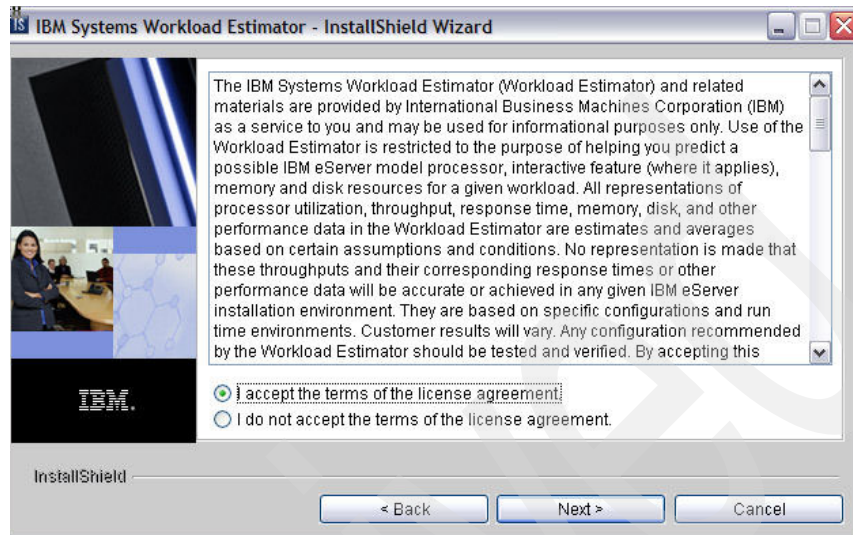

Figure B-12 WLE licence acceptance
9. The next step in the process asks you to accept the WLE license agreement. Click the **I accept** radio button and **Next** to continue (Figure B-12).